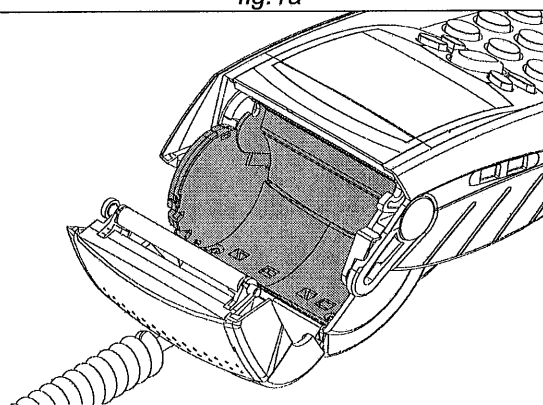

fig.1b
- Pull the cover open to the rear of the device (figure 1b).